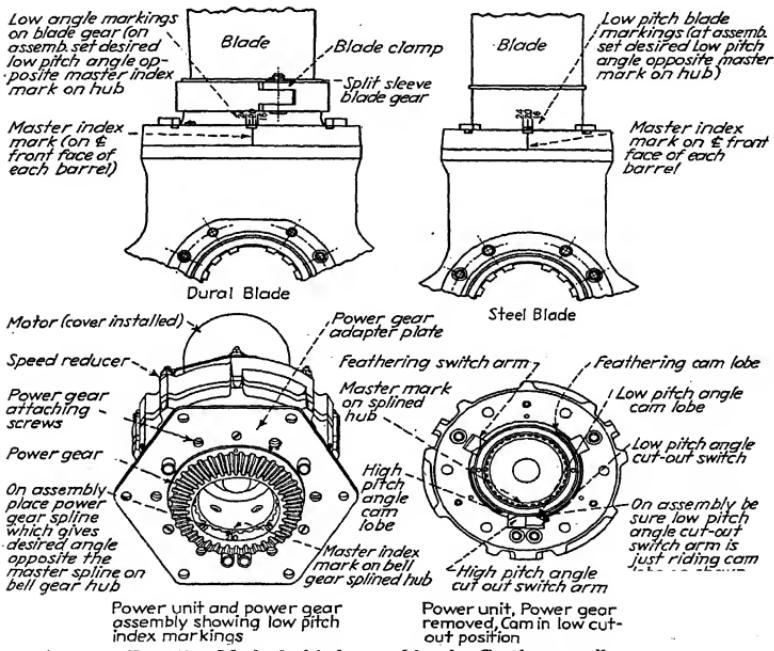

FIG. 56.—Method of index marking for Curtiss propellers.
*Power Unit Installation.*—Two types of blade and power unit indexing systems are used: the first was used in the earlier model propellers and the second in the late models. They have, respectively, (1) index marks on the power gear and steel adapter plate, and on the blade gears; (2) index marks (Fig. 56) indicating a series of blade angles on the blade shanks just outside of the hub and a series of marks inside the power gear.
Instructions for the index marking system (2) are as follows (Fig. 56). This system is used on later model propellers.